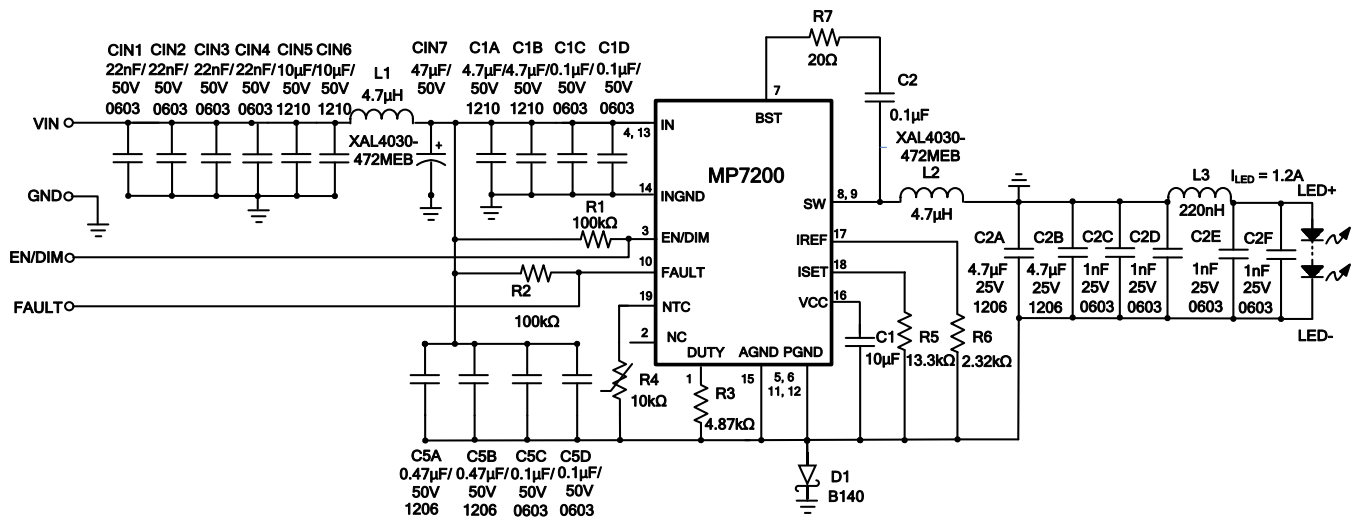

Figure 12:  $I_{LED} = 1.2A$  Buck-Boost Application Circuit with No Two-Step Dimming
- 14) The recommended layout is based on Figure 12.